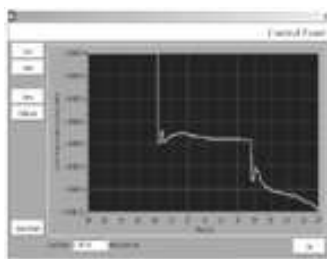

Figure 6 Leak Test Data Wizard Software
3. Leak Test Data Wizard software (Figure 6) enables real-time viewing of leak information with a test log of results versus time. Data can also be captured and stored for later review, or downloaded to a spreadsheet for analysis offline or for archiving. The Leak Test Data Wizard software is installed on any laptop or PC and connected directly to the VS leak detector.